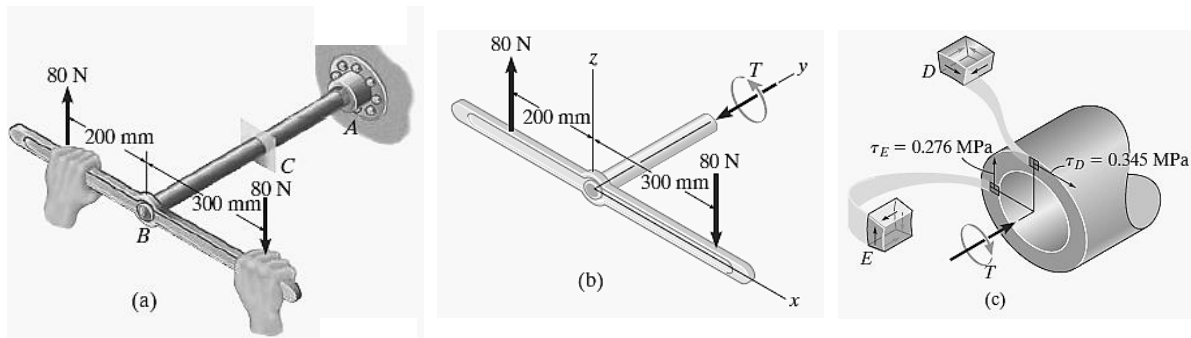

Fig. 1
1. The pipe shown in Fig. 1 has an inner diameter of 80 mm and an outer diameter of 100 mm. If its end is tightened against the support at A using a torque wrench at B, determine the shear stress developed in the material at the inner and outer walls along the central portion of the pipe when the 80-N forces are applied to the wrench.